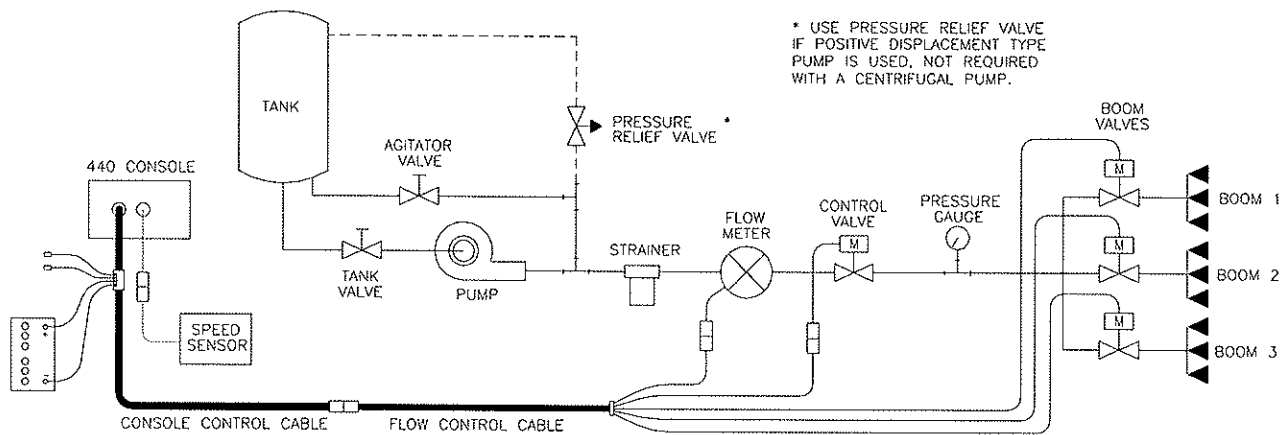

FIGURE 4
- 1) Mount Flow Meter in the area of the boom valves per Figure 4. All flow through Flow Meter must go to booms only, i.e., no return line to tank or pump after Flow Meter.